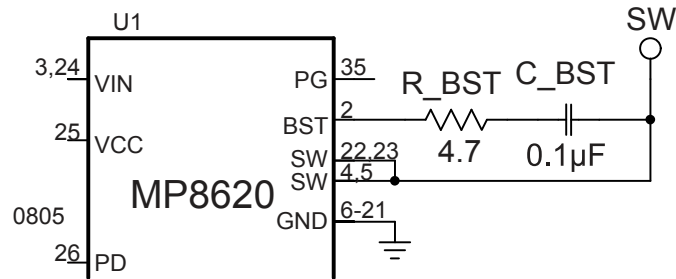

**Figure 6**
- b. Connect the COMP pin of slave IC to the COMP pin of the master IC as shown in Figure 6.